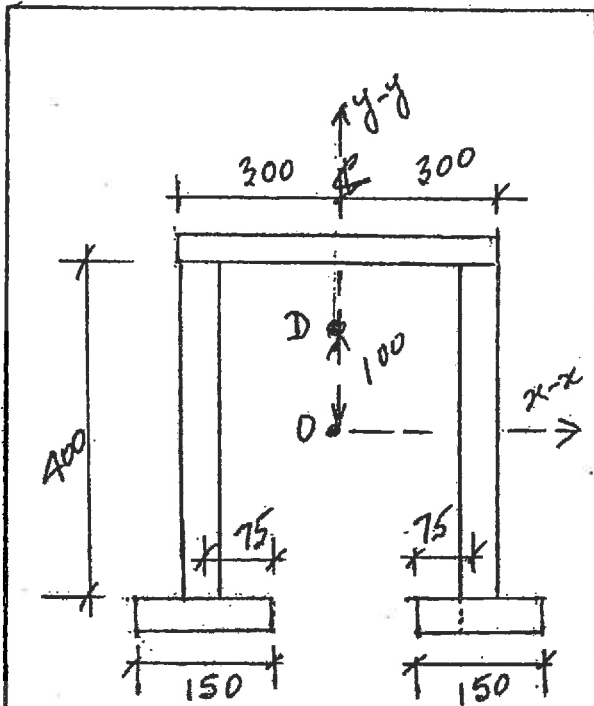

FIGURE A1
- A1. Figure A1 shows the cross-section of a steel beam built-up from 20 mm G40.21 350W steel plates. Calculate the moments of resistance of the cross-section about the centroidal axes, x-x and y-y.